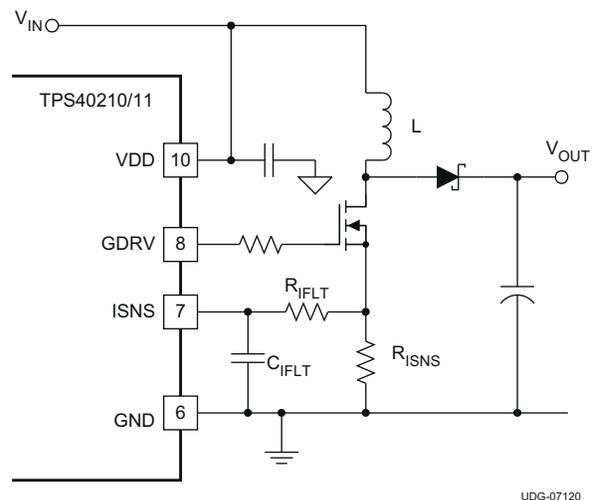

Figure 7-7. Current Sense Components
- V_{D} is the drop across the diode in Figure 7-7
- V_D is the drop across the diode in Figure 7-7
It is possible to increase the voltage compensation ramp slope by connecting the VDD pin to the output voltage of the converter instead of the input voltage as shown in Figure 7-7. This can help in situations where the converter design calls for a large ripple current value in relation to the desired output current limit setting.
In most cases, a small filter placed on the ISNS pin improves performance of the converter. These are the components R_{IFLT} and C_{IFLT} in Figure 7-7. The time constant of this filter should be approximately 10% of the nominal pulse width of the converter. The pulse width can be found using Equation 20.